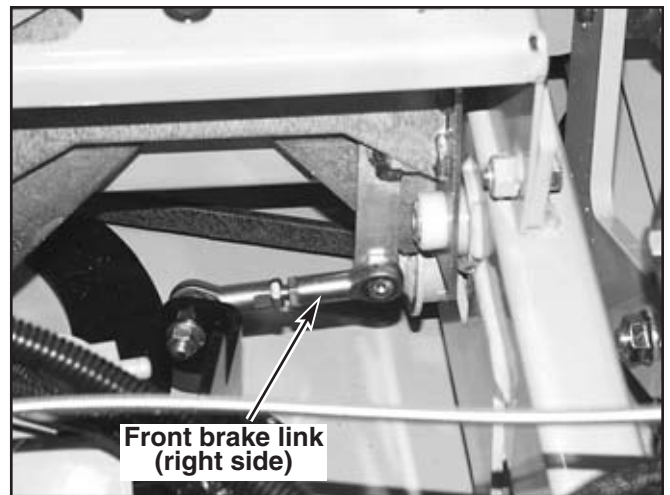

Figure 5-6
**NOTE:** The front brake link is not adjustable. Fig. 5-6